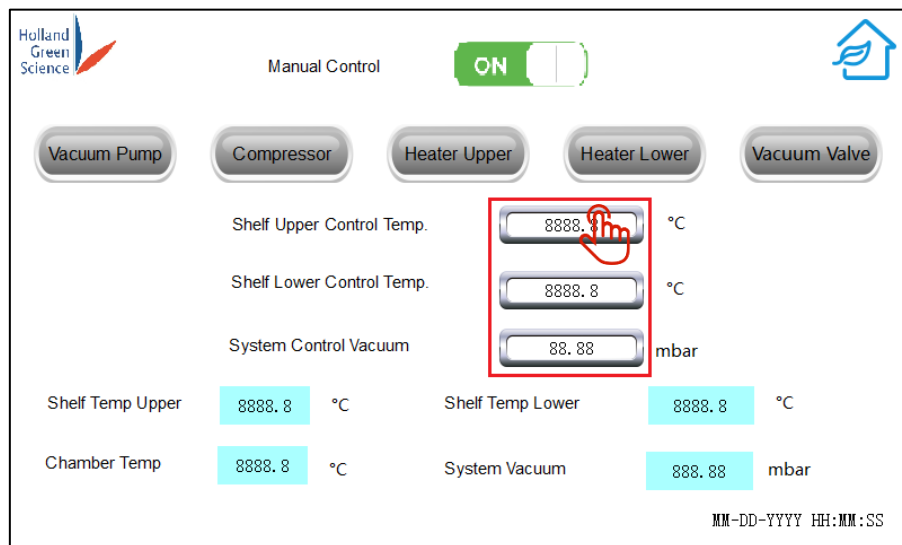

Figure 14
- Set shelf temperature and chamber vacuum as desired (Figure 14).